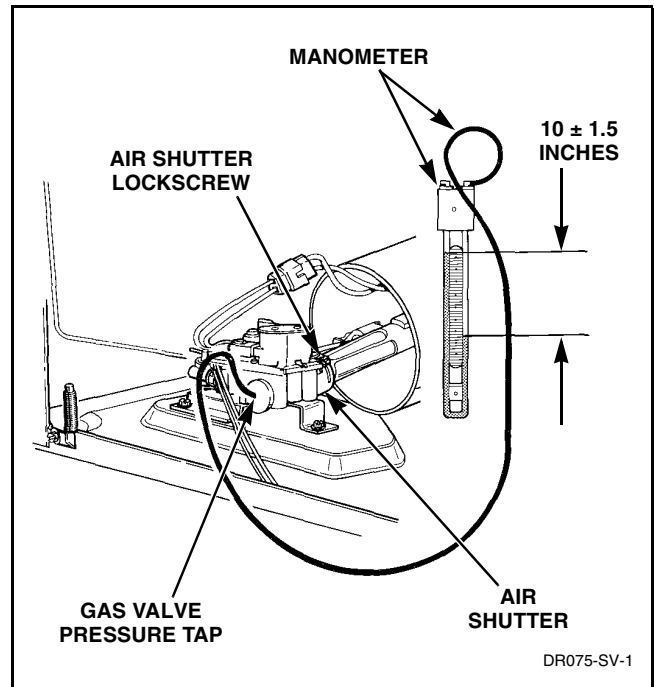

Figure 46
- (2) Connect a "U" tube manometer (or similar pressure gauge) to the pressure tap. Refer to Figure 46.
- (1) Loosen air shutter lock screw. Refer to *Figure 46*.
- (2) Turn air shutter to the right or left as necessary to obtain proper flame intensity.
- (3) After air shutter is adjusted for proper flame, tighten air shutter lock screw firmly.